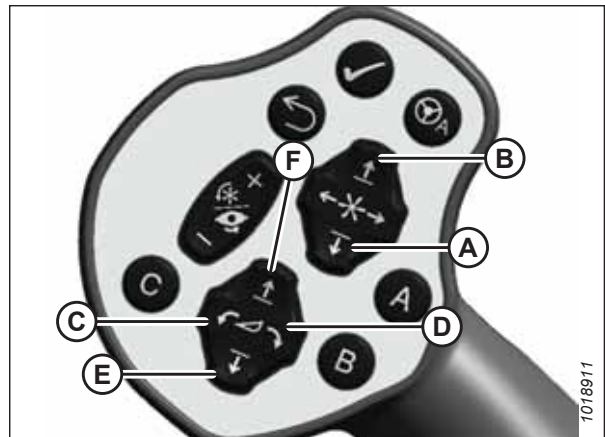

Figure 4.278: GSL
12. Lower center-link (A) onto the header with the REEL DOWN switch on GSL until it locks into position. When this happens, hook release (C) will be in the down position. Refer to Figure 4.278, page 234 for an illustration of the GSL controls.
13. Ensure that the center-link is locked onto the header by pressing the REEL UP switch on the GSL. Refer to Figure 4.278, page 234 for an illustration of the GSL controls.